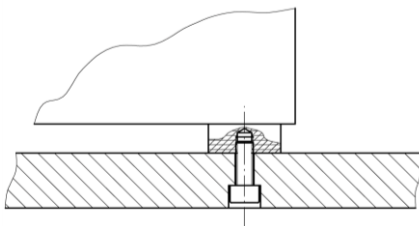

Figure 3
- WV with base plate (see Figure 3)